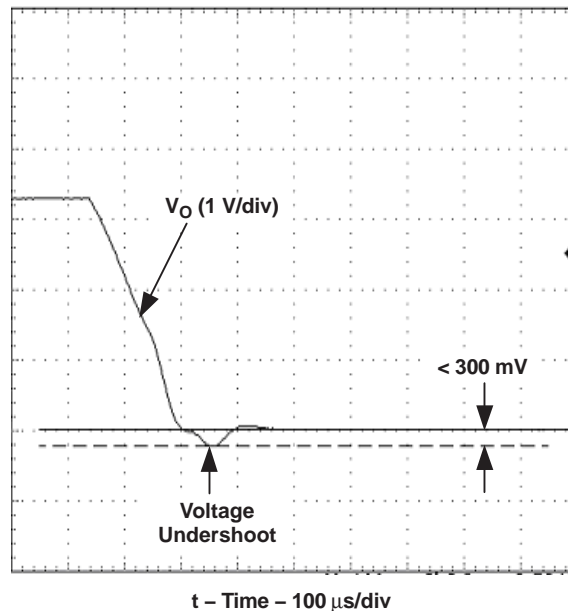

Figure 15. Power Down
**Turn-Off Time:** When a valid input source is removed or if the *Remote On/Off* (pin 2) is used to disable the output, with no external output capacitance, the module powers down within 200  $\mu$ s. Figure 15 shows that, during power down, there is a small undershoot, typically less than 300 mV (or less than a diode drop). If used to supply processor I/O voltages, the low undershoot ensures the parasitic diodes do not conduct current and potentially cause damage to external circuitry.